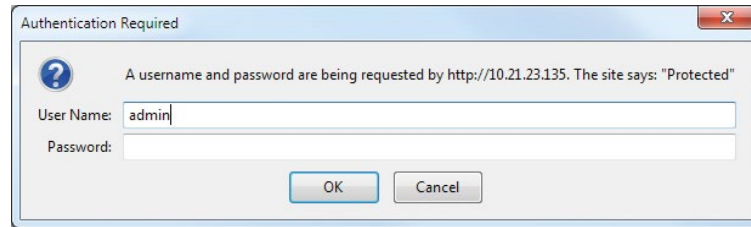

Figure 7-1 Connect
3. Start the Internet browser on the computer and enter the IP address in the Address bar after HTTP and you should get a connection box, see Figure 7-1.